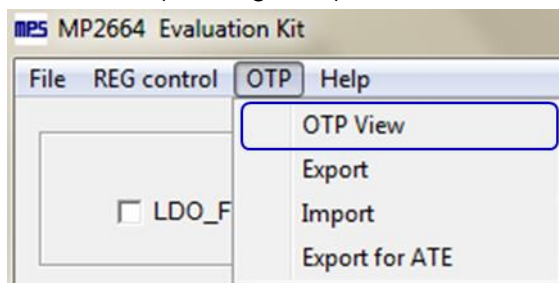

Figure 8: Select OTP
3. Select the “OTP View” in the tool bar. (See Figure 8)